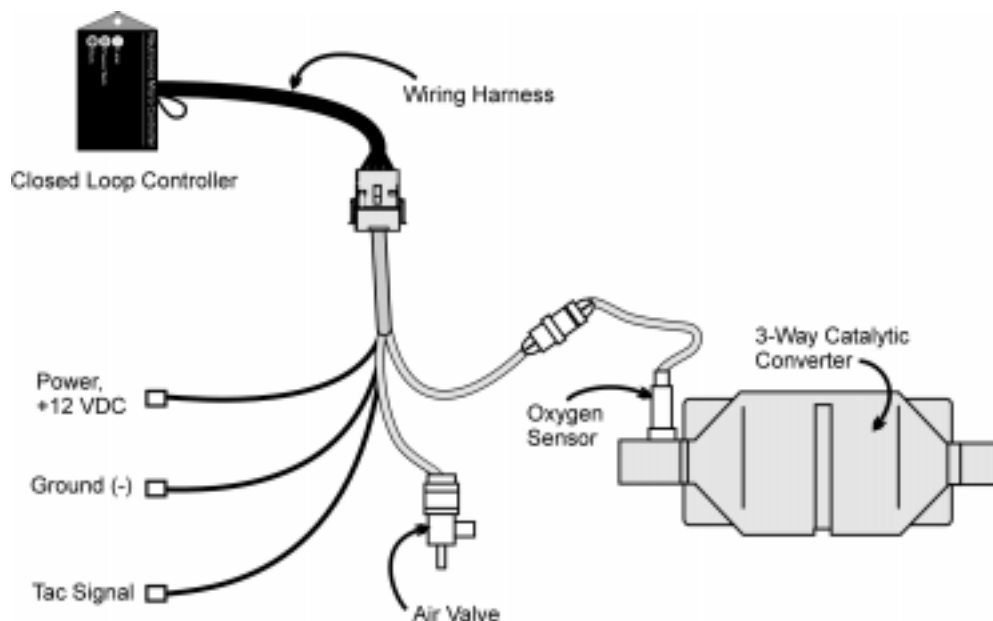

Figure 6. Wiring Harness.
- 2. Attach the harness ground wire (black wire with the ring terminal) to the vehicle body using a sheet metal screw. There must be a good electrical contact between the ground wire and the vehicle chassis. See Figure 6.